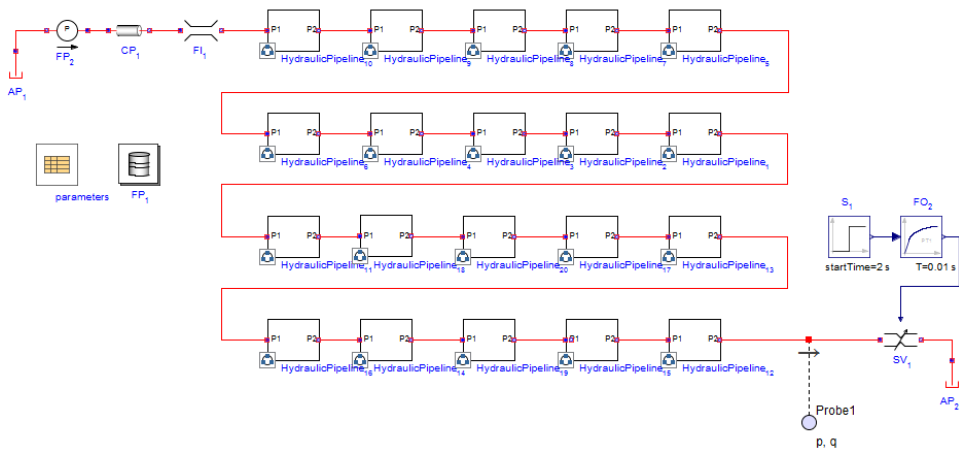
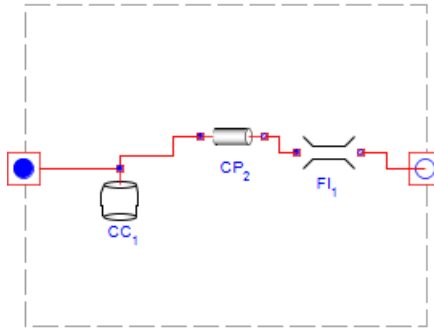

Figure 6.28: Water Hammer
Figure 6.29: Discretized Pipeline Segment
Each subsystem consists of a compliant cylinder, a pipe, and a fluid inertia component as shown in **Figure 6.29**. A pipeline (of total length L and volume V) with N segments has $N + 1$ pipes, each with a length,
1. Build the model with the components and connections shown in **Figure 6.28** and **Figure 6.29**.
4. For the **Fixed Pressure** component (**FP₂** in **Figure 6.28**), set the pressure, **P**, to 500kPa.